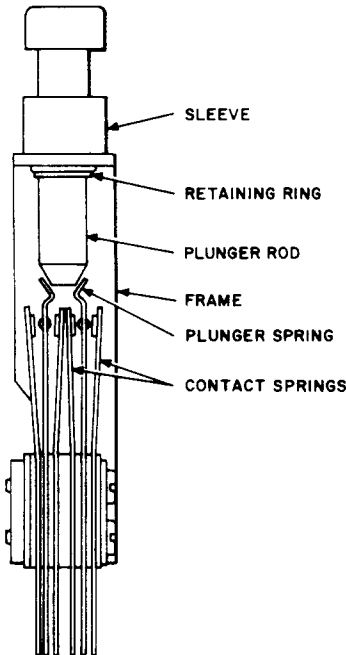

Fig. 8—547-Type Key Equipped With 1-Piece Plunger
(b) **585-, 596-, 624-, 630- (except 630R), and 650-Type Keys:** Fig. 8(A) and 11—Both plunger springs shall rest against the plunger in the unoperated position.